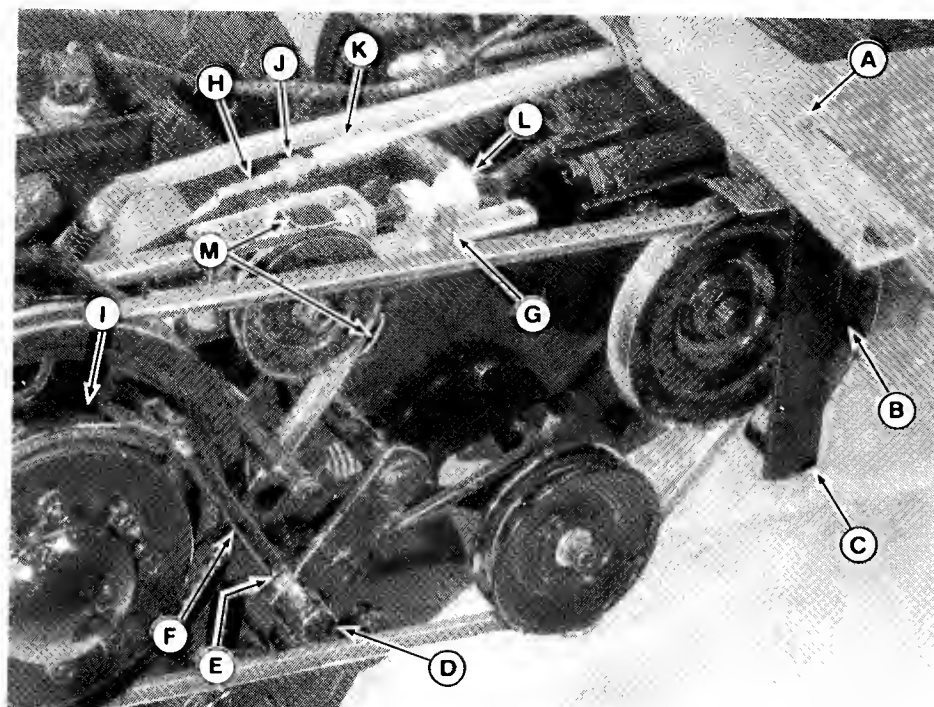

Figure 25. Semi-Automatic Tractor Adjustments
2. To adjust tractor clutch, adjust jam nuts (J, figure 25) on the clutch rod so there is 1/4 inch (6 mm) clearance between jam nut and rod guide (K) with clutch-brake pedal in up position.
- e. Place vehicle motion lever in forward drive position. Make sure the clearance between the forward drive belt and each leg of the belt stop (M, figure 25) is 1/16 to 1/8 inch (1.5 to 3 mm). If not, loosen the nut on other side of pulley just enough so that the belt stop can be rotated. When adjustment is correct, retighten the nut.
- f. Place vehicle motion lever in reverse drive position. The brake band (I, figure 25) should grip the planetary hub tightly. If not, place the vehicle motion in neutral position. Remove the spring clip (E) from the pivot pin (D) and pull the pivot pin out of its hole. Rotate the pivot pin on the rod so that almost all slack is taken out of the brake band when the pivot pin is in its hole and vehicle motion in neutral. Replace pivot pin in hole, and spring clip in pivot pin.